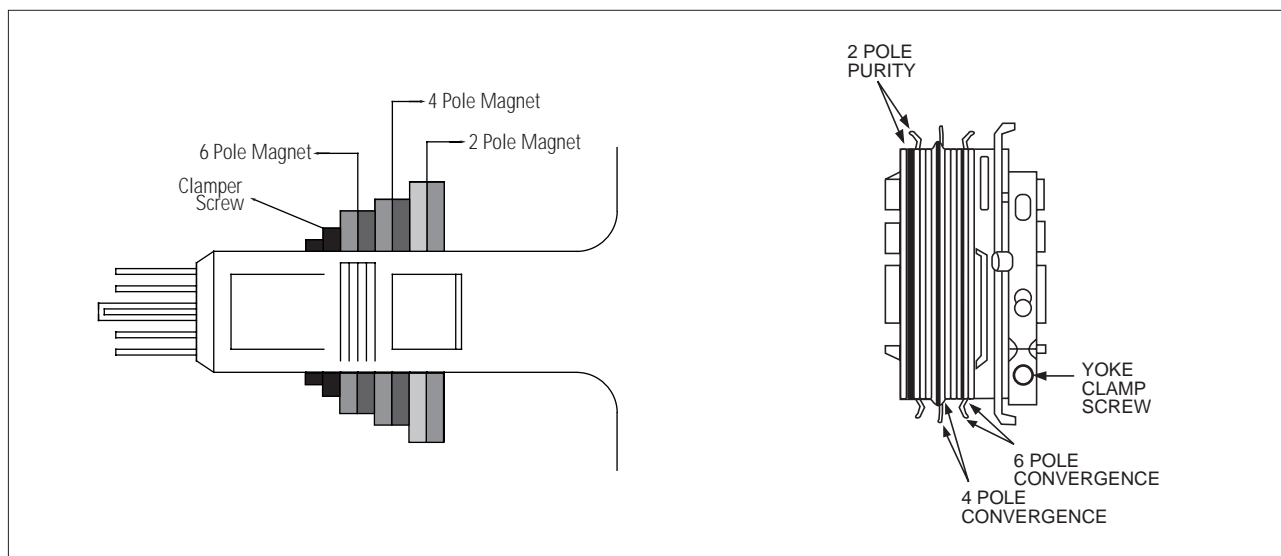

Fig. 4-2 Convergence Magnet Assembly
7. Loosen the clamp screw holding the yoke. Slide the yoke backward or forward to provide vertical green belt. (Fig. 4-2).